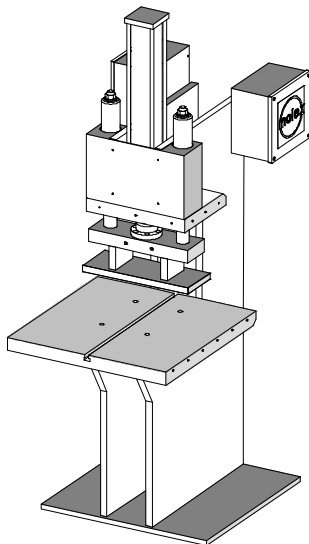

Figure 1-1
Molex offers two (2) presses that are suitable for this application. (See also Figure 1-1 and 1-2. They are: